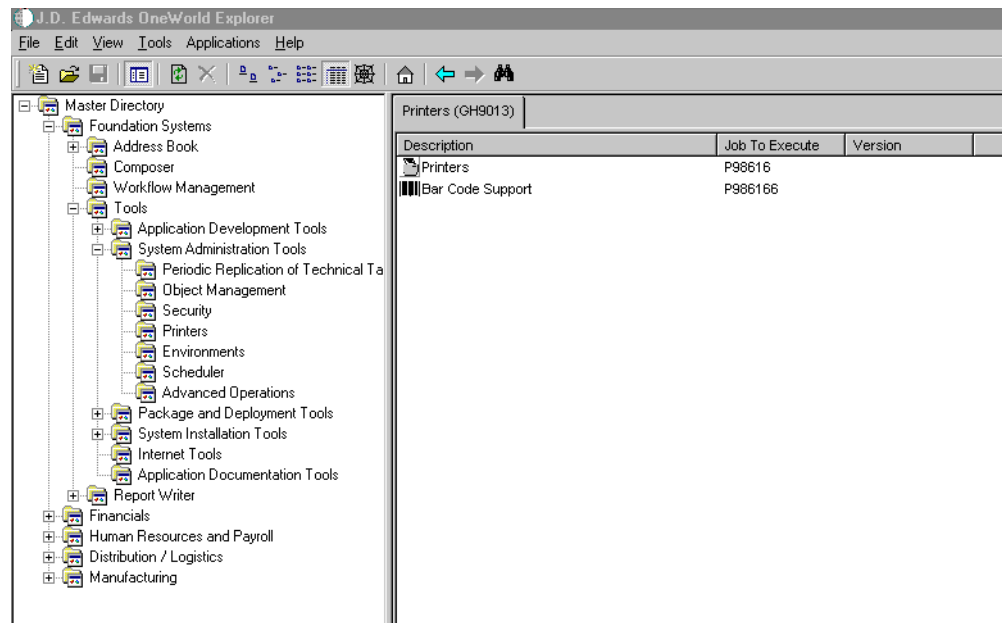

Figure 186. J.D. Edwards OneWorld Explorer printer menu
2. Press the Enter key. The Printers menu (GH9013) is a single point of entry for configuring your printers within OneWorld. Your display should appear as shown in Figure 186.